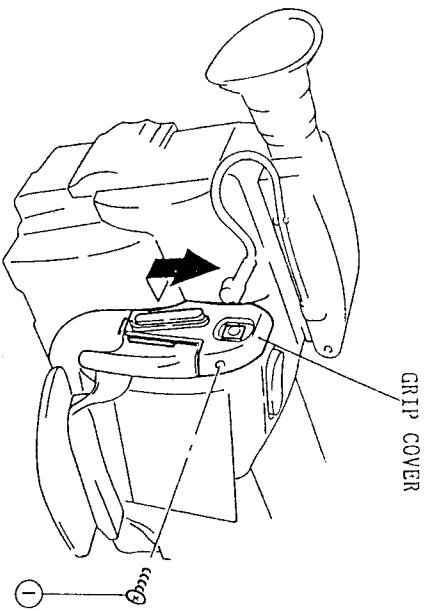

Fig. 2-1
Remove one (1) screw holding the grip cover and remove the grip cover in the direction of the arrow. (See Fig. 2-1)
1. Remove the grip cover. (See Fig. 2-1)